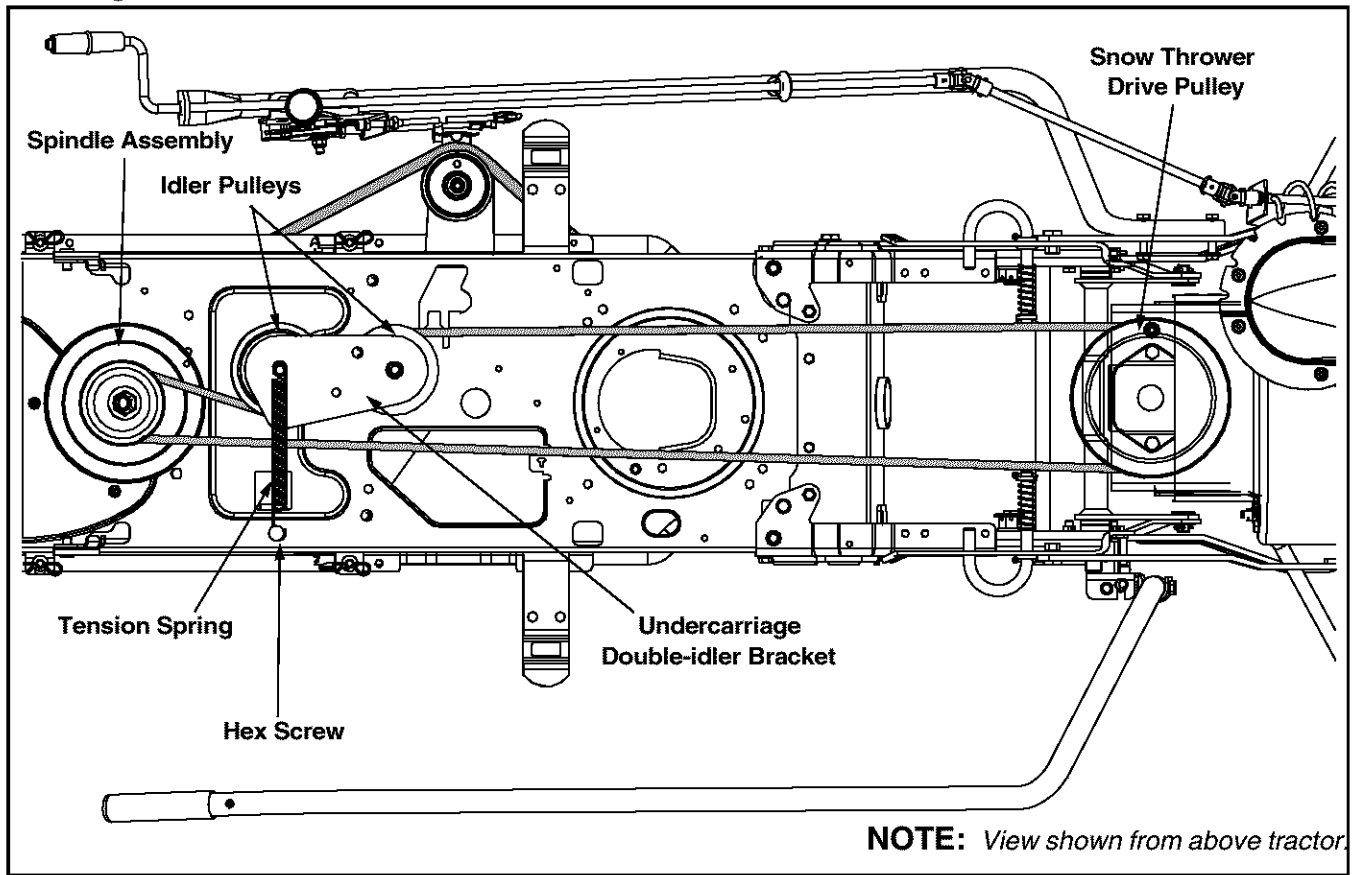

Figure 18
1. Attach and route the lower drive belt around the lower pulley on the spindle assembly, both pulleys on the double-idler bracket found beneath the undercarriage, and the drive pulley found on the rear of the snow thrower housing as illustrated in Figure 18.
2. Attach the tension spring (found on the undercarriage double-idler bracket) to the hex screw as shown in Figure 18 if it's not already attached.